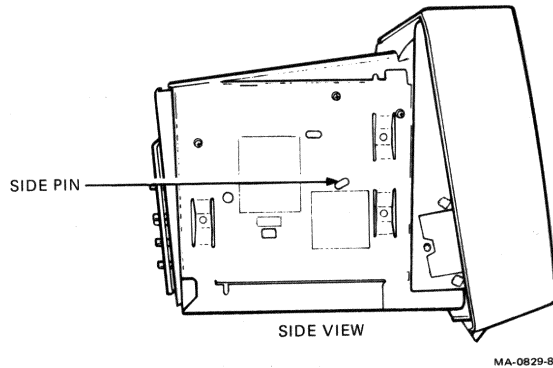

Figure E-11 Rectangularity Adjustment
6. Turn SIDE PIN control (Figure E-11) so that left and right sides of display appear to be vertical without any bowing when viewed straight on. The maximum bowing in or out must be less than 3 mm.